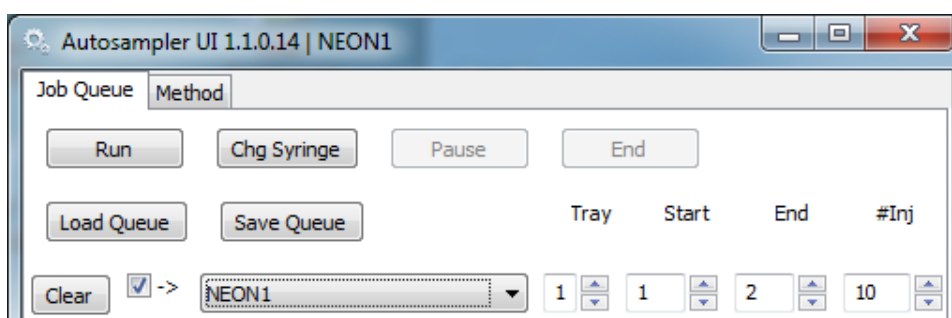

Figure 255. NEON1 Configuration for Field Validation.
5. Set the Job Queue to **NEON1** and click **Run** (see **Figure 255**). Minimize window.